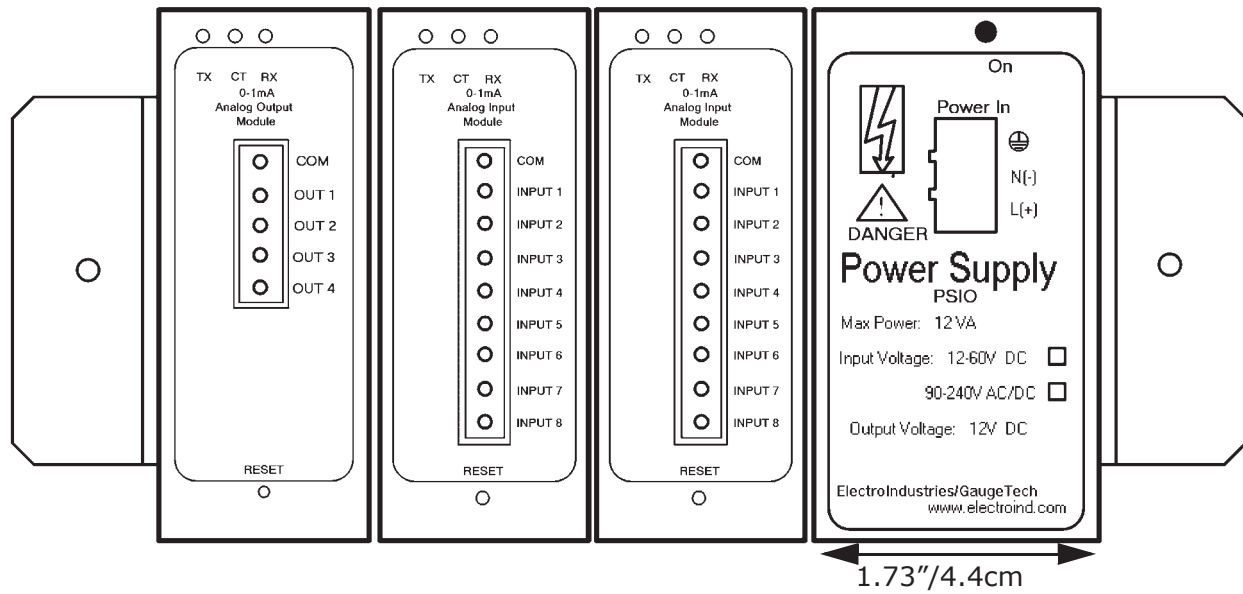

Figure 6.11: I/O Modules with PSIO Power Supply
**IMPORTANT!** The Nexus® 1262/1272 meter does not supply power to the I/O modules. You must use an external power supply, such as the EIG PSIO (12V Output). Figure 6.11 shows mounting with the PSIO.